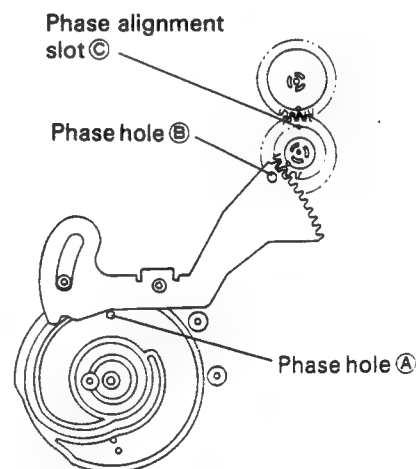

Fig. 1-13-2
- (1) First, make sure the loading cam is mounted in the correct position. (Refer to item 1-14.)
- (2) Position the sector gear so that its phase hole ⑥ aligns with the position adjustment slot ③ on the loading arm T assembly as shown in Figure 1-13-2.
- (3) Mount the retaining ring (1).
- (4) Mount the M switch assembly. (Refer to item 4-3.)